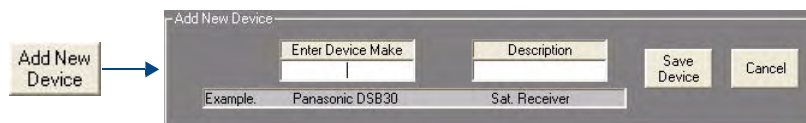

FIG. 55 AMX Library Files dialog - Add New Device fields
- In the AMX IR Libraries dialog, click the **Add New Device** button to invoke the *Add New Device* fields (FIG. 55):